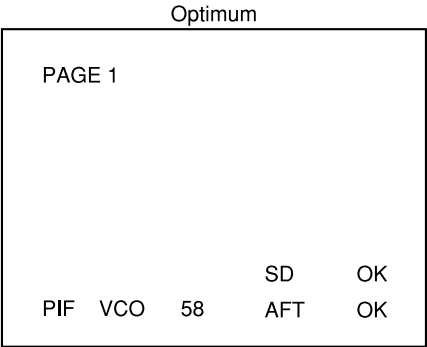

Fig. 1-5
- Use the volume keys on the jig remote controller to adjust AFT until “OK” status is indicated on the screen. (Fig. 1-5)